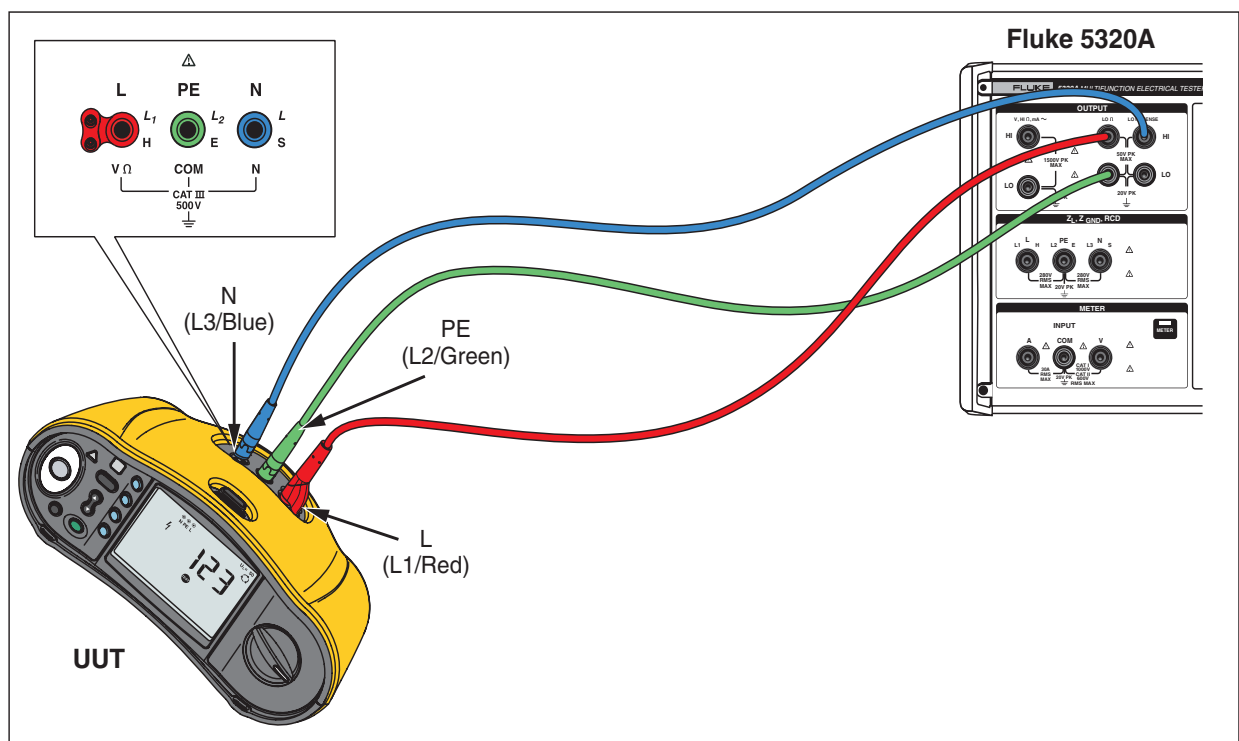

Figure 9. Earth Resistance Tests
2. Connect the Tester to the Calibrator LO Ω Output terminals as shown in Figure 9.